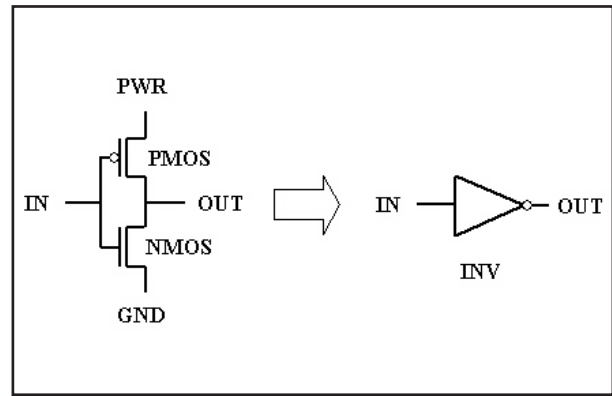

Figure 3. INV
- **INV** — CMOS inverter (Figure 3.)
The pair of correctly organized (see previous section) transistors of P- and N- types (Figure 3) is replaced by a logical configuration **INV**